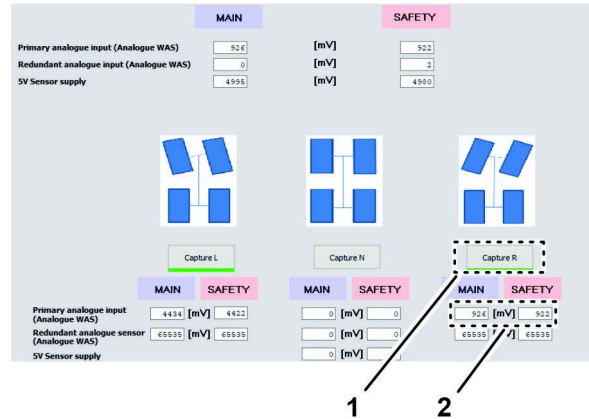

Figure 149
6. Click the CAPTURE R icon (Figure 149).